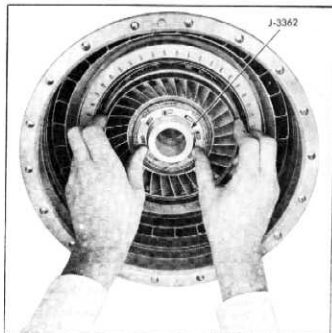

Fig. 82—Installing Secondary Pump to Primary Pump Hub
4. Using loading tool No. J-3362, install secondary pump to primary pump hub (fig. 82),